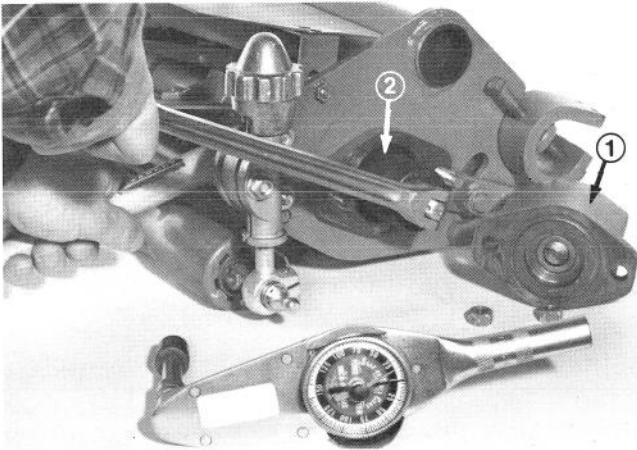

Figure 13
1. Remove the mounting nuts from the counterbalance end cap and remove end cap from the mounting studs (Fig. 13).
3. With the wrench mounted, hold the reel and tighten the large reel bearing adjustment nut (Fig. 13). Tighten until the drag on the reel meets 10 to 20 inch-pound (1.13 to 2.26 N·m) specification.
2. Remove counterbalance End Cap (Fig. 13).
3. Remove the large bearing adjustment nut from one end of the reel shaft (Fig. 13) and the special spline nut at the opposite end of the reel shaft.